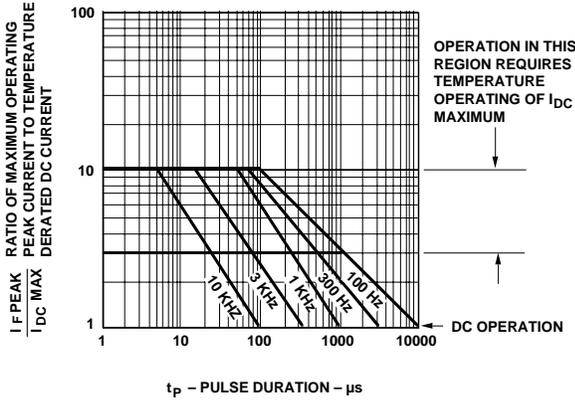

Figure 6. Maximum Tolerable Peak Current vs. Pulse Duration - HER, Orange.
3. See Figure 6 to establish pulsed conditions.